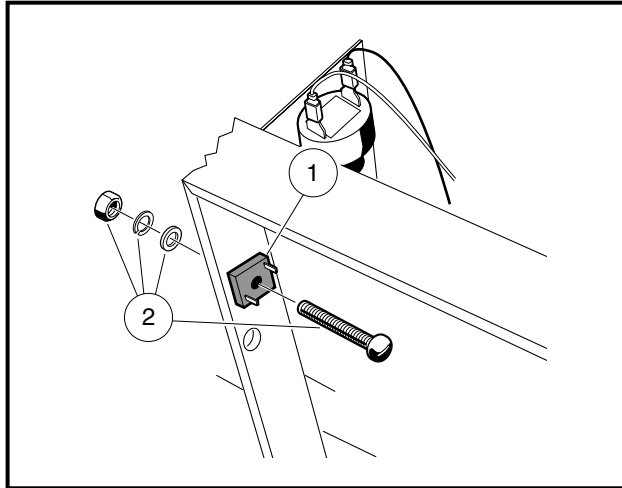

Figure 12-32 Headlight Diode
5. Disconnect wires from the headlight diode (1) (**Figure 12-32, Page 12-32**).
6. Remove the mounting hardware (2) from the headlight diode and remove it from the vehicle.
1. Mount the headlight diode to the frame using the mounting hardware. Tighten to 25 in-lb (2.8 N·m) (**Figure 12-32, Page 12-32**).